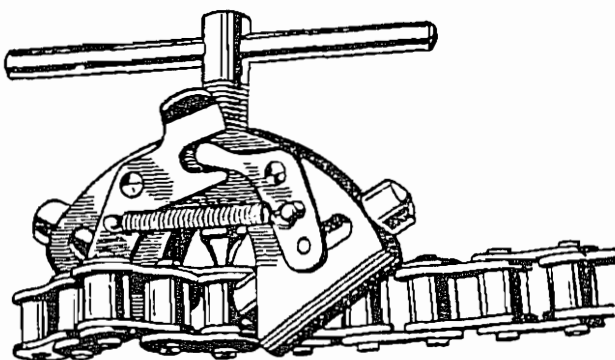

Fig. 38.
3. Pass jaws over chain and release the lever. Jaws should rest on a chain roller free of chain link plates (See Fig. 38).